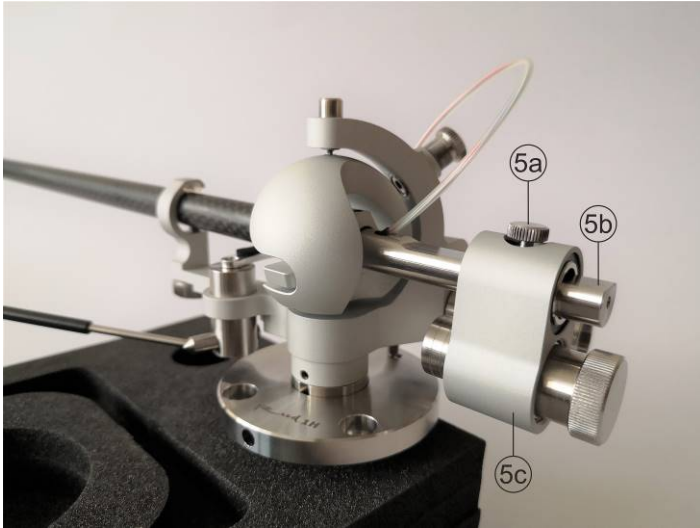

Figure 10
- b) Put counterweight frame [5c] onto the holder [5b] and fasten it with the screw [5a], as shown in Figure 10.